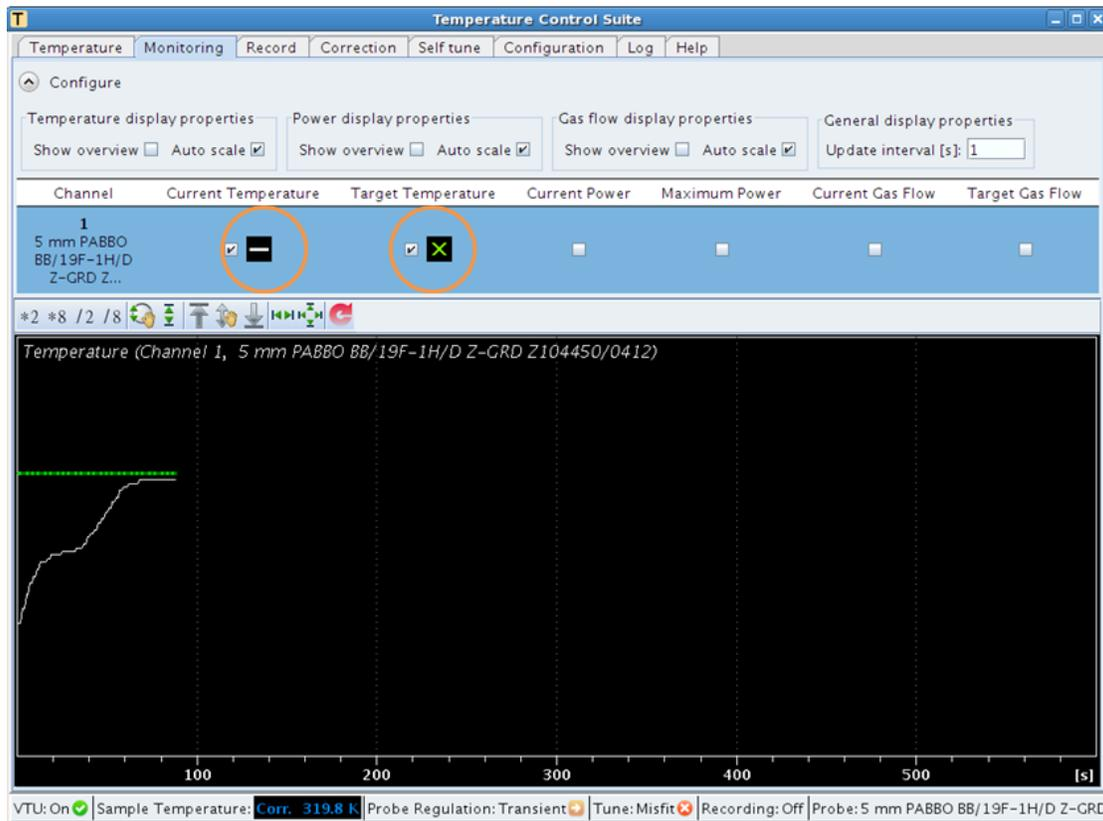

Figure 6: Monitoring Current and Target Temperatures
- Now click on **Monitoring** Tab and check the boxes in front of *Current Temperature* and *Target Temperature* as circled in Figure 6. The current temperature slowly approaches to the target temperature as shown in the following figure.